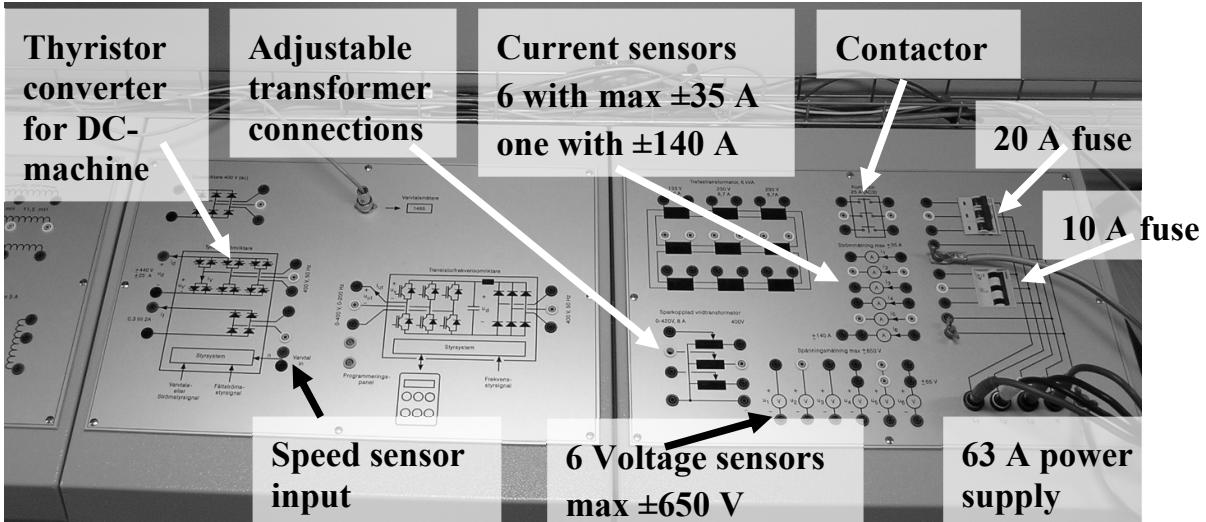
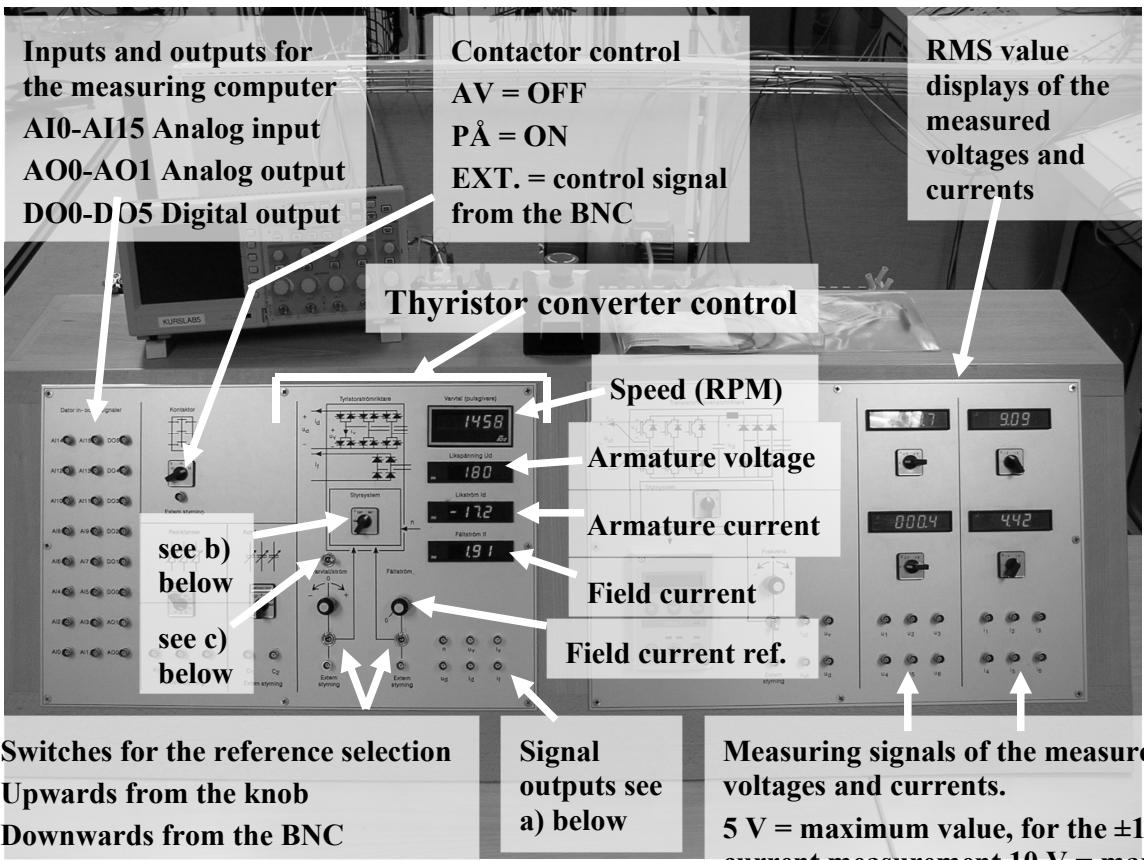

Figure 6. The power panel.
Figure 7. The control panel. For a), b) and c) see the text below.
5. Before you switch on the voltage, make sure that the thyristor converter control system on the instrument panel is positioned on **Current Control** (*sv: ström*) and **Internal Control** (opposite of *Extern Styrning*) and that the contactor control is on OFF (AV).
8. Before turning on the thyristor converter, adjust the “Speed Gain Adjust” on the screen so that the speed meter on the screen shows the same speed as the speed display on the control panel, see Figure 7 in Appendix 1.3.
The voltage and current sensors shown in Figure 6 scales the measured quantity to a low voltage signal, which value is proportional to the measured quantity. The low voltage signals you can access on the control panel, see in the lower right corner of Figure 7. The used signals should be connected to the analog inputs of the measuring computer, left side of Figure 7. What is shown in the LabView program and what is stored in the measurement files are the values of the low voltage signal. To obtain the value of the measured quantity these values needs to be multiplied with the scaling constant, which you can obtain from Figure 7.